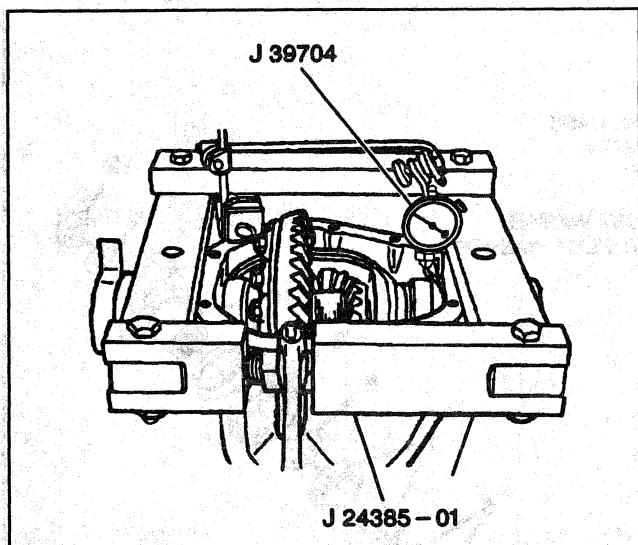

Figure 3—Spreading the Differential Case
- B. Assemble J 24385-01 to the differential housing (Figure 3).